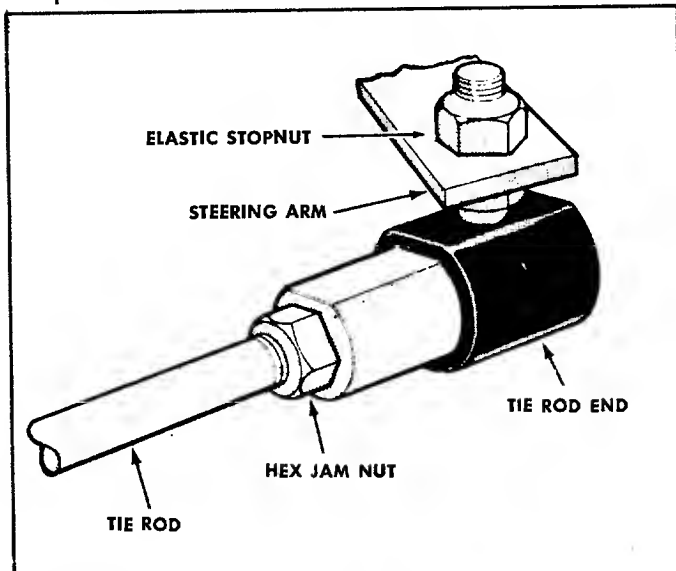

FIGURE 21. TIE ROD ADJUSTMENT
Step 1. Loosen the hex jam nut on one side. See figure 21.